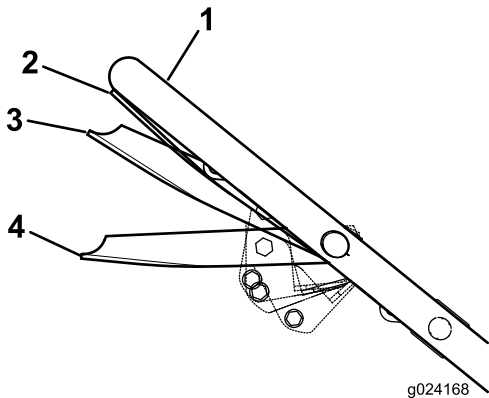

Figure 17
4. Hold the blade-control bar in the Run/Shift position, about 2.5 cm (1 inch) below the handle (Figure 17).